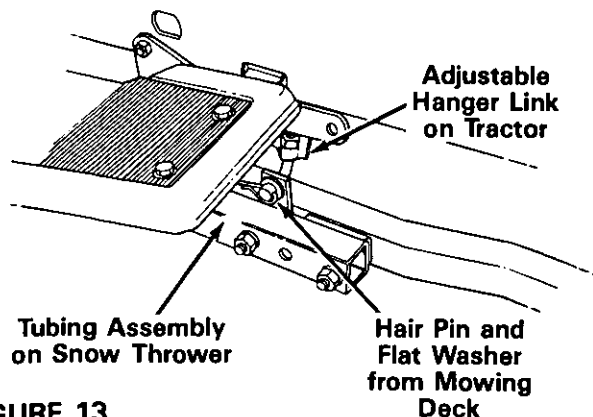

FIGURE 13
- B. Secure the adjustable hanger link on the right hand side of tractor to the tubing assembly on snow thrower, using flat washer and hairpin clip (which came with the mowing deck). See figures 13 and 14.